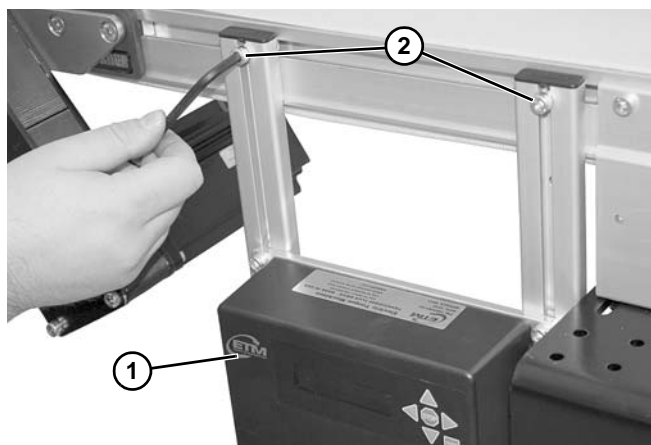

Figure 16
2. Attach controller (Figure 16, item 1) to conveyor with screws (Figure 16, item 2).